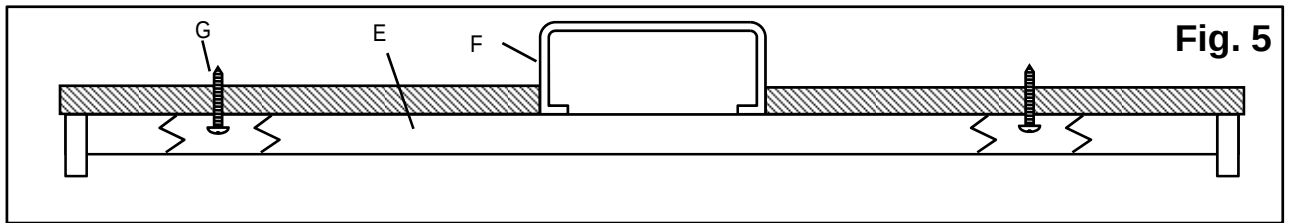

Fig. 5
4. Place the **fixture (E)** over the **outlet box (F)** and feed the **anchor screws (G)** through the **mounting slots (D)** into the **anchors**. Tighten the **anchor screws (G)** so that the **fixture (E)** is secured flush against the ceiling. **(Fig. 5)**